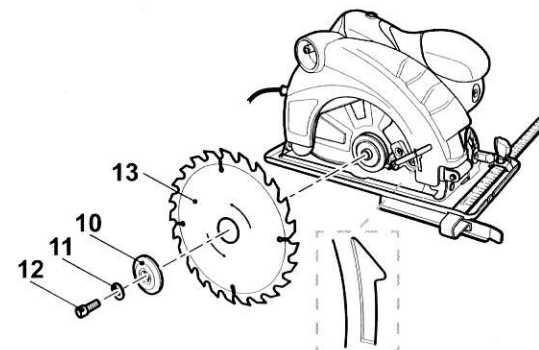

Fig. 15
- > Put the saw blade (13) aside and carefully move the retracting lever (15) back to its initial position to close the lower guard (9).
- > Clean the hex bolt (12), washer (11), locking flange (10) as well as the spindle and inside from dust.
- > Open the lower guard (9) completely by moving the retracting lever (15) forward and hold it in position while placing a new saw blade on the spindle. Ensure that the rotational direction indicated on the saw blade is the same as the one shown on the housing (Fig. 15, detail).
- > Carefully move the retracting lever (15) back to its initial position to close the lower guard (9).
- > Secure the saw blade (13) with the locking flange (10), washer (11) and hex bolt (12). Tighten the hex bolt clockwise (Fig. 15).